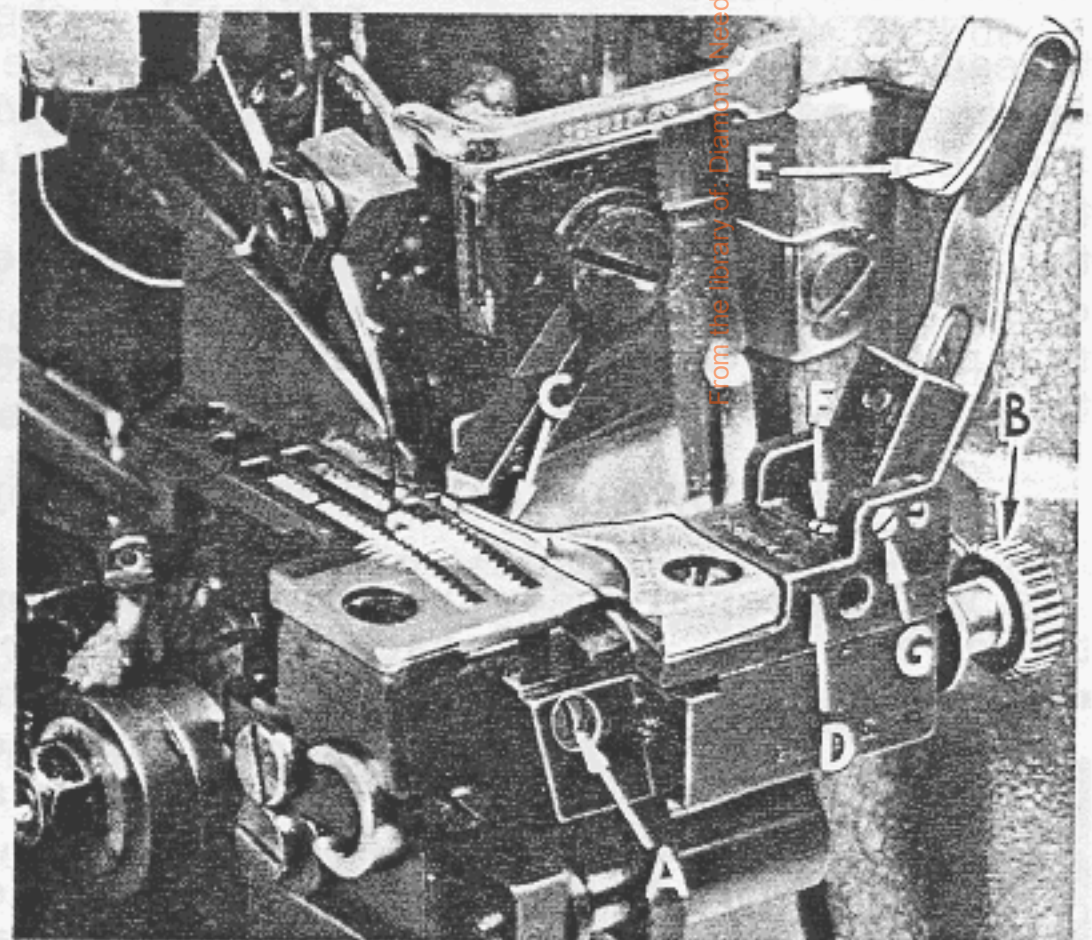

Fig. 15
Assemble the hemming guide support bracket onto the lower knife support bracket by means of screw (A, Fig. 15). With the knurled adjusting screw (B), set the edge guide (C) so that the left side of its tip is even with and parallel to the right side of the right feed slot in the throat plate.